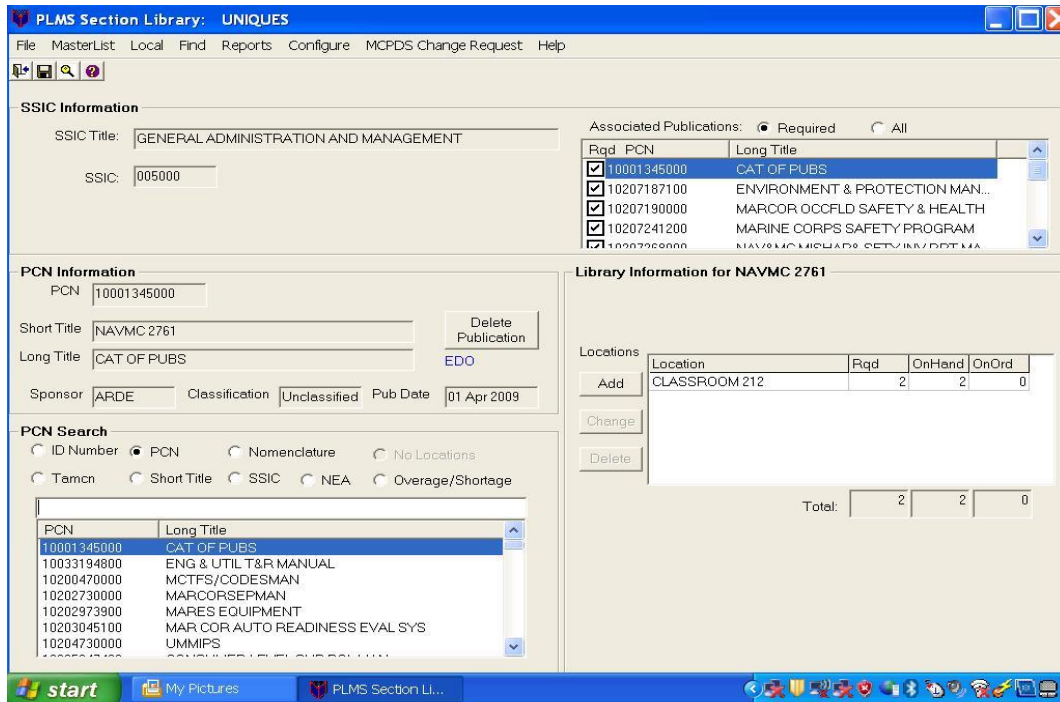

Figure 2: PLMS Main Menu
b. Sub-Menu for Edit Data. The first option on the PLMS Main Menu is for "File." This option allows you to save PLMS, Backup PLMS to CD or PSD, Delete section library and Exit PLMS. PLMS Main Menu is Figure 2: